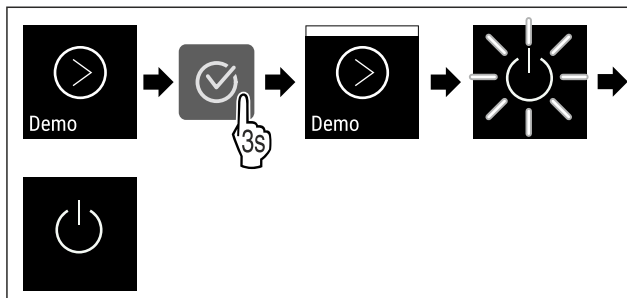

Fig. 100
- ▶ Complete steps (see Fig. 100) .